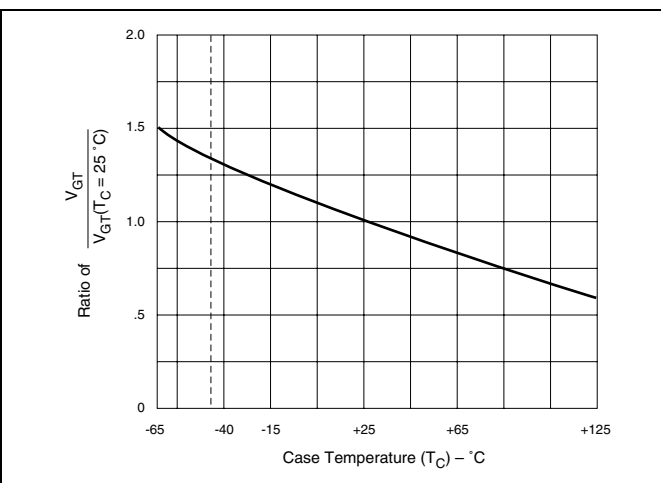

Figure E2.12 Normalized DC Gate Trigger Voltage for All Quadrants versus Case Temperature
- (6) See Figure E2.12 for  $V_{GT}$  versus  $T_C$ .